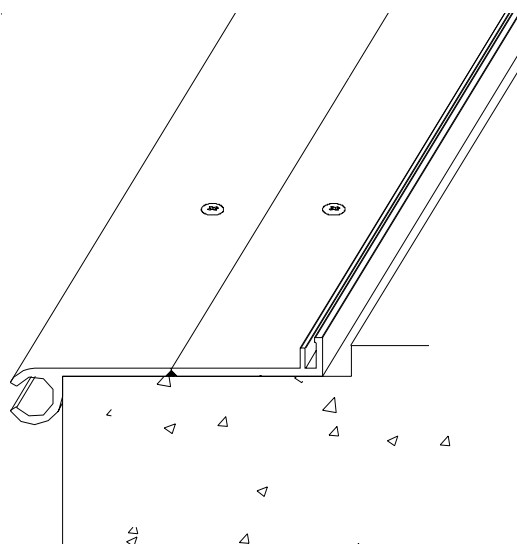

Figure 6
STEP 10. Place the base member back into its installed position in the blockout. Align the anchor holes in the base member with the anchor holes in the concrete. Ensure that the base member is level, plumb, and properly aligned. Attach the base member to the concrete slab using the fasteners supplied by the factory (see Figure 6). Repeat this procedure for the opposite base member.